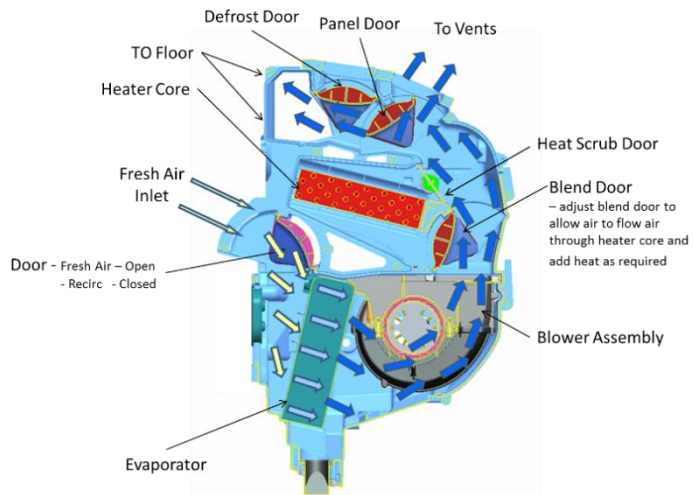

Figure 5: Normal A/C, Fresh Air, Floor/Panel
*Figure 5* illustrates the system airflow when operating in the **BI-LEVEL A/C mode**. The BI-LEVEL A/C mode operation is identical to PANEL A/C operation; except, the mode doors direct the output air to both the floor ducts, and the panel vents.